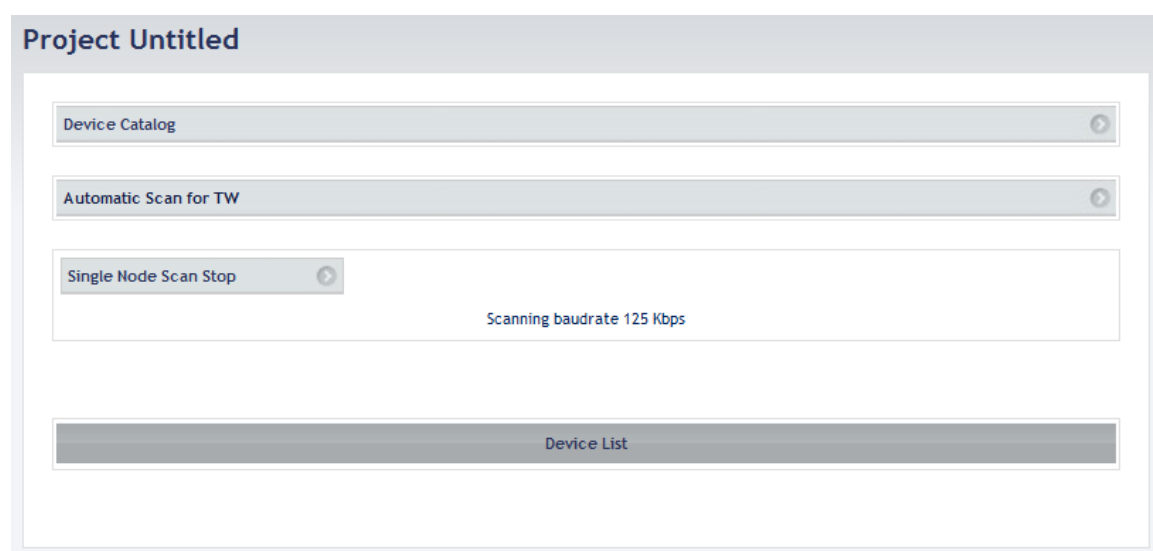

Figure 16 – Start single node scan
- Make sure the cables physical connections are ready. Then press the “Single Node Scan Start” bar, a dialog messagebox is appeared to warn you that the operation must be done only on single connected device per time. Click “Confirm”, the automatic scan is running with each baudrate value from the baudrate range in Figure 16.